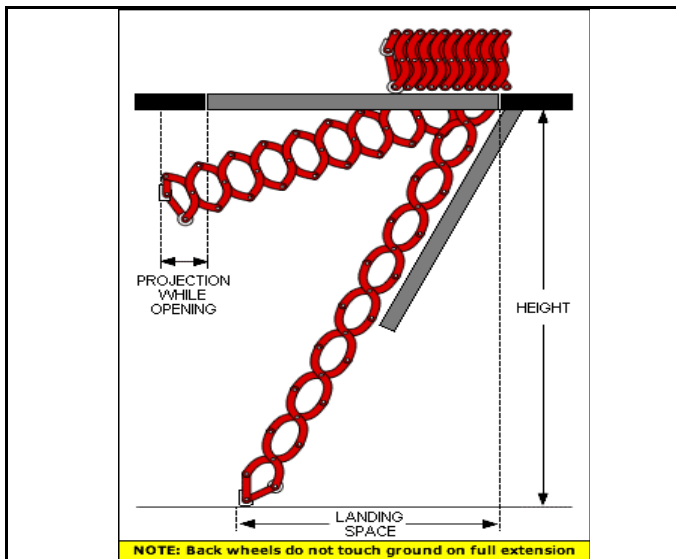

Figure 1
2. Determine whether the chosen location allows sufficient "projection" and "landing space" for your unit. See Figure 1 and TABLE A.